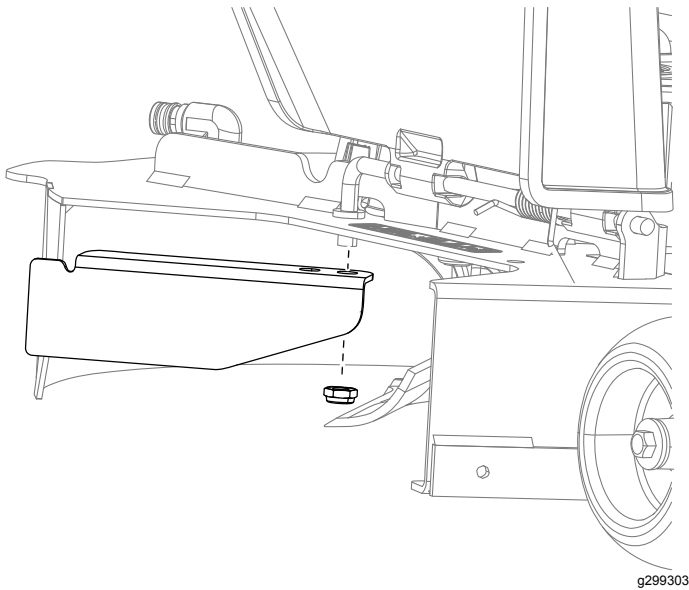

Figure 14
1. Remove the existing baffle from the machine (Figure 14).